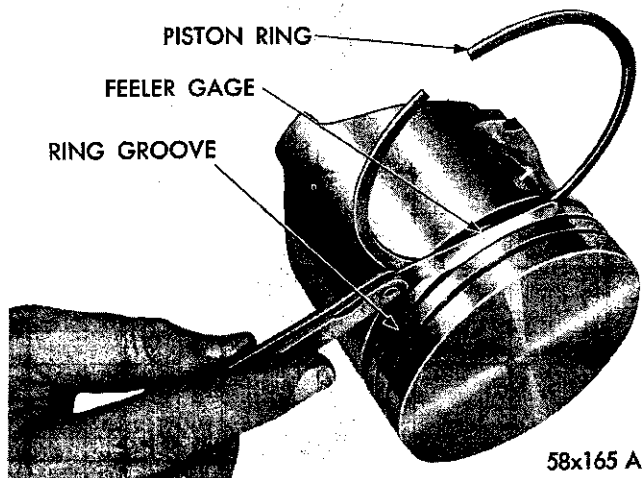

Fig. 37—Measuring the Piston Ring Clearance
(1) Measure the piston ring gap about two (2) inches from bottom of cylinder bore in which it is to be fitted. (An inverted piston can be used to push the rings down to insure positioning rings squarely in the cylinder wall before measuring.)
(2) Insert the feeler stock in the gap. The ring gap should be between .013 to .052 inch for the compression rings and .015 to .062 inch for the oil ring steel rails in standard size bores. Maximum gap on .005 inch O/S bores should be .060 inch for compression rings and .070 inch for the oil ring steel rails.
(3) Measure the side clearance between the piston ring and the ring groove (Fig. 37). The clearance should be .0015 to .003 inches for the top compression ring and the intermediate ring, and .001 to .009 inch for the oil control ring, for new service rings.
(4) Install the oil ring in the lower ring groove using the instructions in the ring package.
(5) Install the compression rings in the middle and top grooves, so that the side marked "TOP" is up.
(6) Use ring installer Tool C-3628 for the 361 cubic inch engine, Tool C-3673 for the 383 cubic inch engine, and Tool C-3671 for the 413 cubic inch engines.